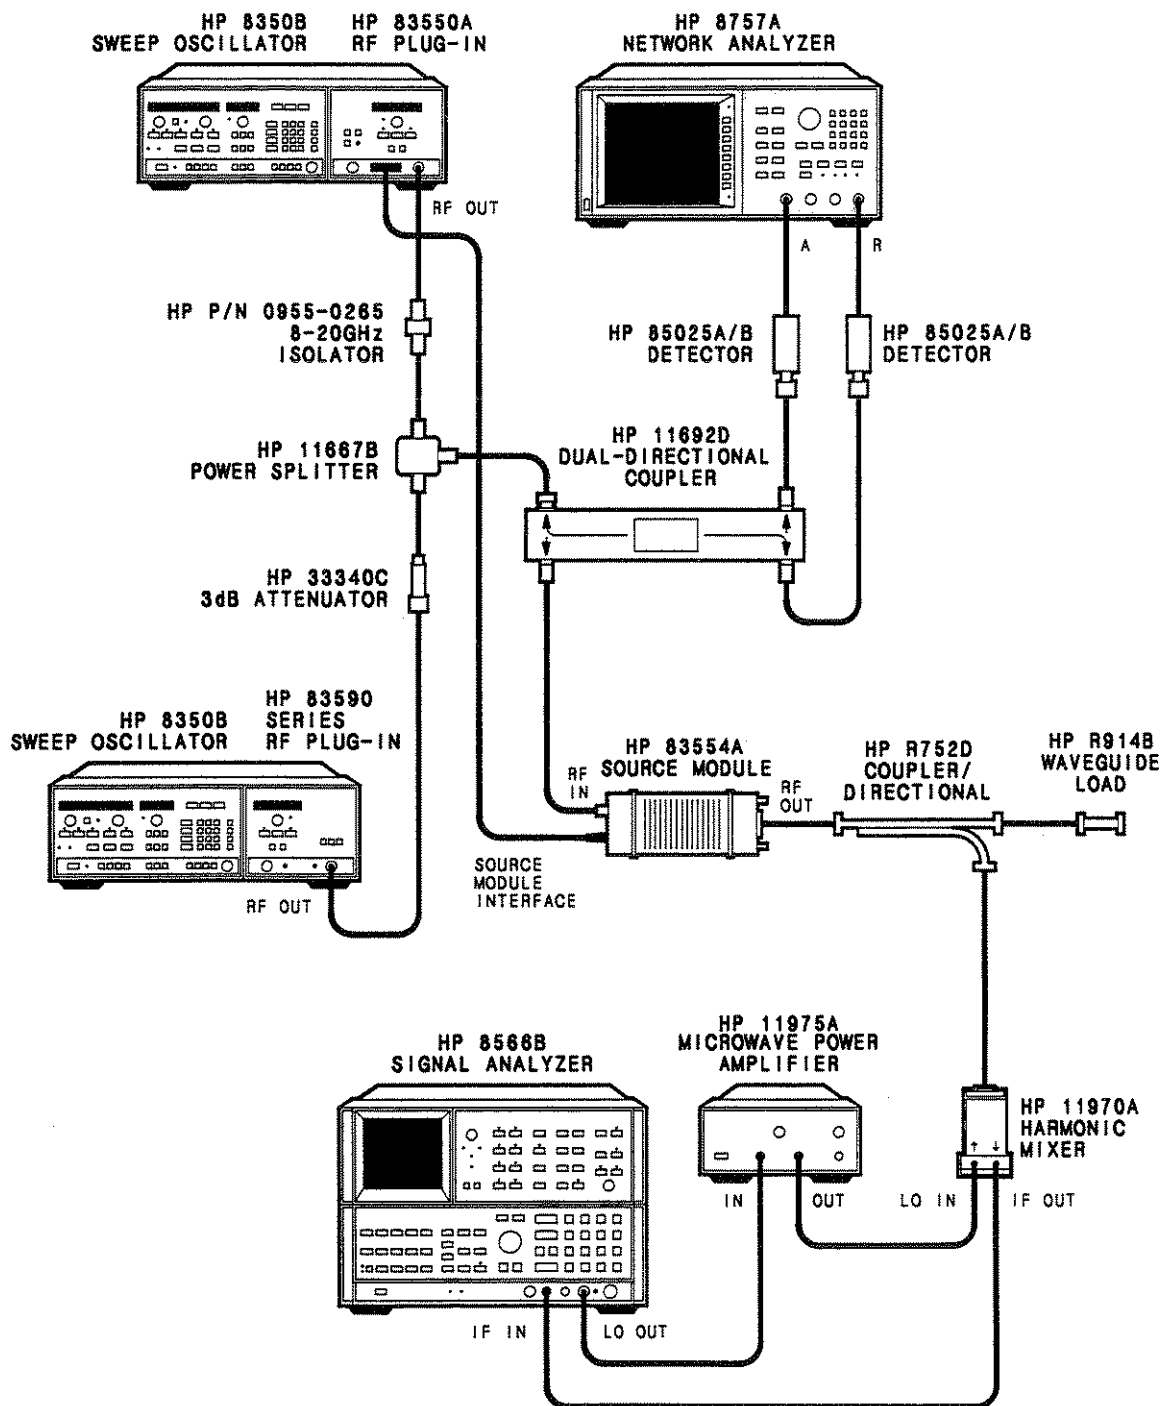

Figure 3-8. Harmonics Spurious Test Setup
1. Connect the equipment as shown in in Figure 3-8.